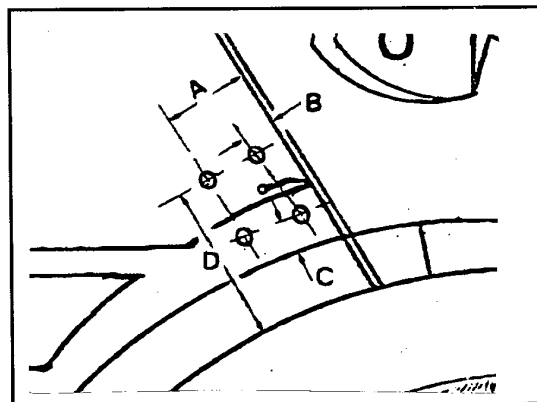

Figure 2
2. According to measurements given in figure 2, mark and drill four $\varnothing 5.0$ mm bores beside the crack.
Refer to Figure 2.